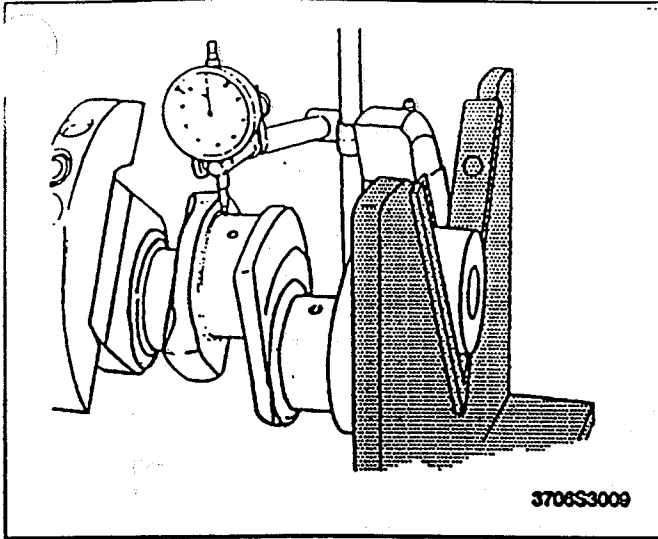

Figure 67—Checking Crankshaft Run-Out
- Crankshaft run-out (figure 67).
- B. Use a dial indicator to measure the crankshaft runout, as shown in figure 67.